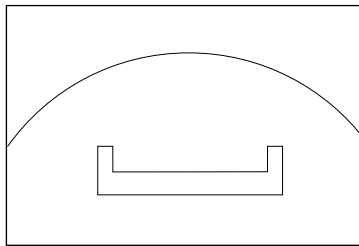

Fig. 6
P. Re-fit the ribbon connector to the pin header. Ensure the plug is inserted the right way round, see Figure 6.